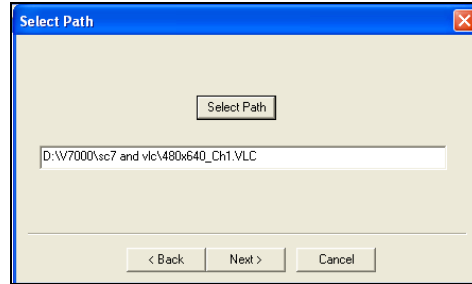

Figure 35: Navigating to .VLC File
8. Click **Select Path** to navigate to the location of the .VLC file you created for Channel 1. Then click the **Next** button. Refer to **Figure 35**.